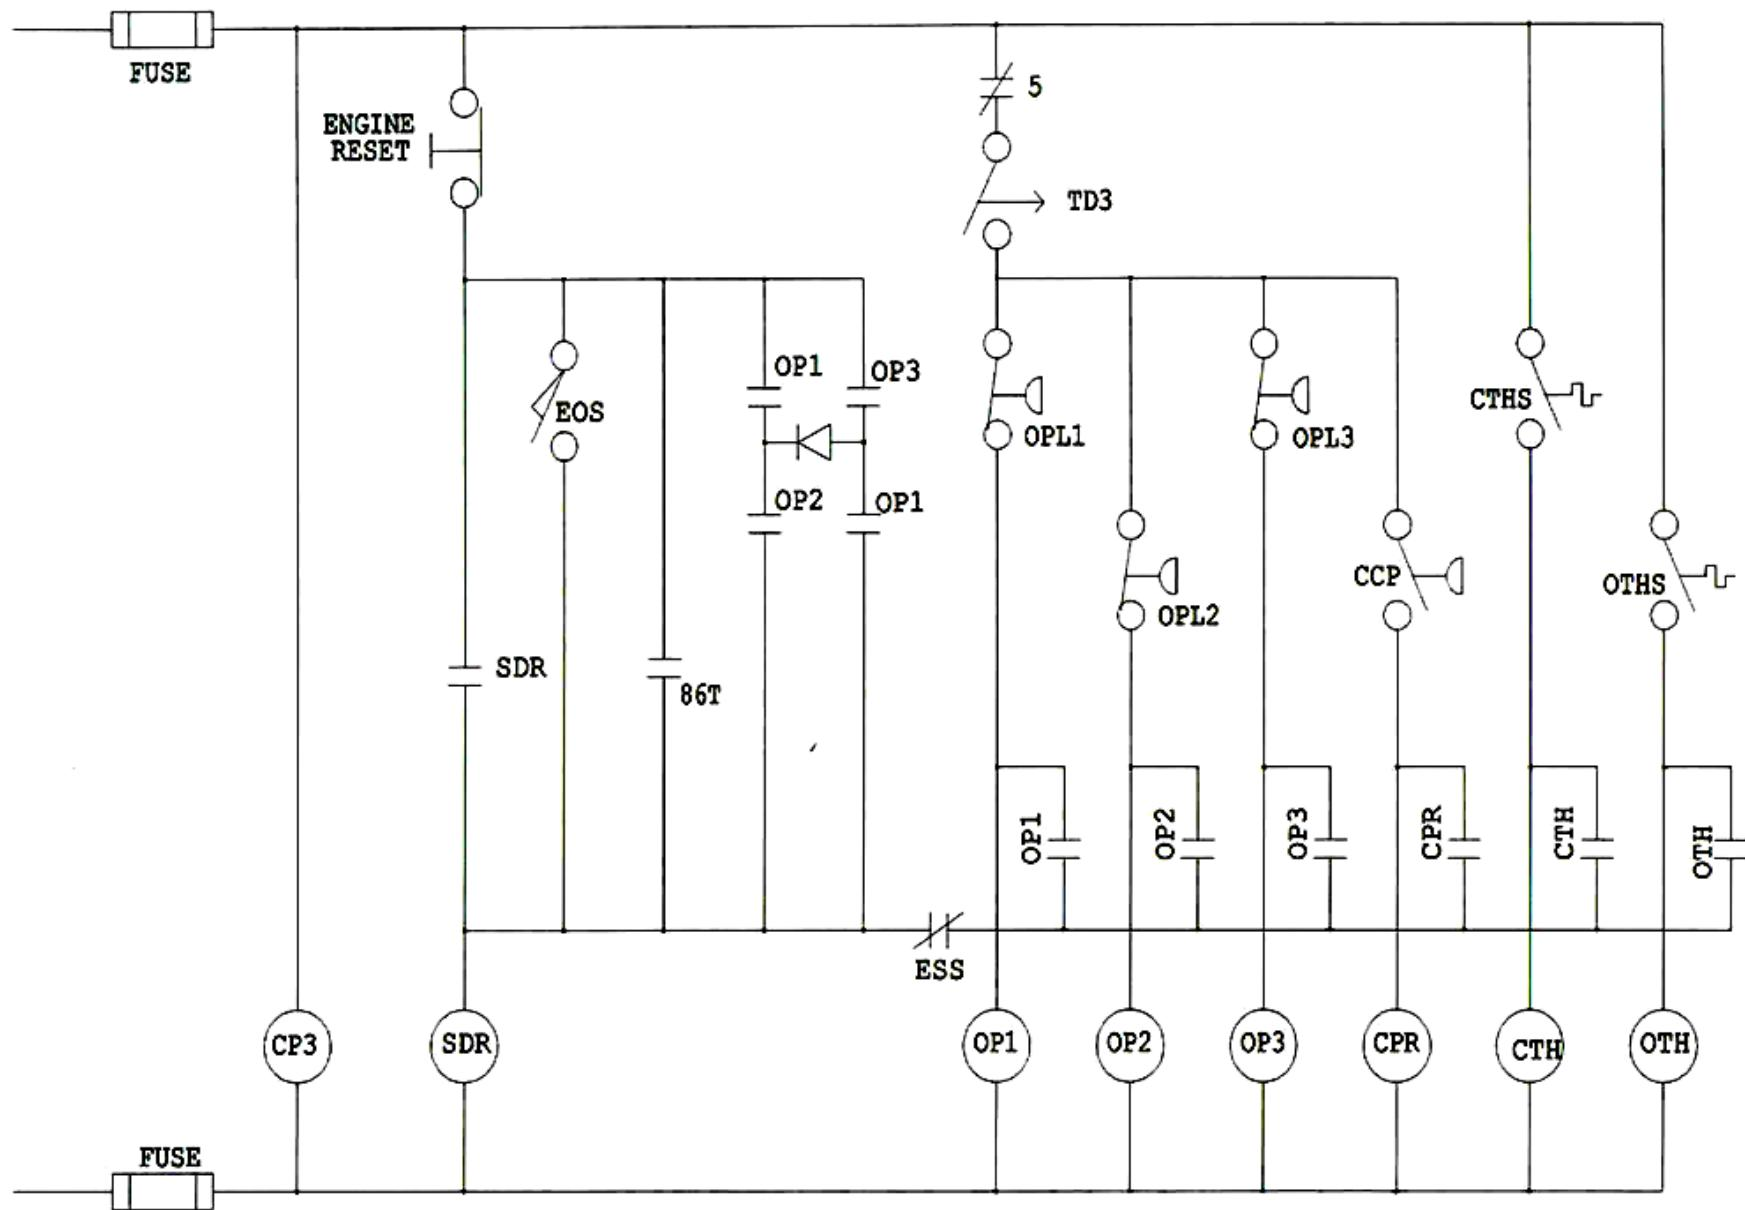

Figure 10-3 Fault Shutdown and Monitoring Circuits
- Figure 10-3 shows the monitoring portion of the circuitry including coincident logic for the lube oil pressure shutdown monitoring.